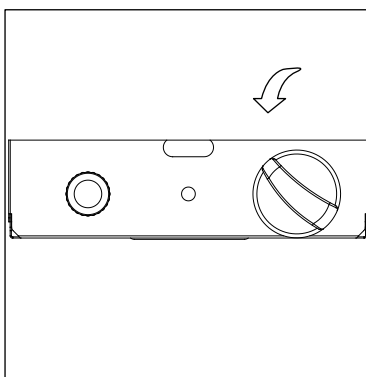

Figure 1
3. Push control knob in and rotate to pilot position or until it stops (Figure 1).